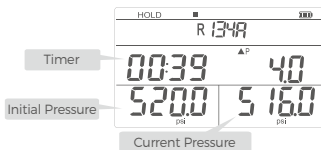

FIG.5 Start the Pressure Leak Test Interface
3. Start leakage test: Press display the and start the timer (Figure 5).